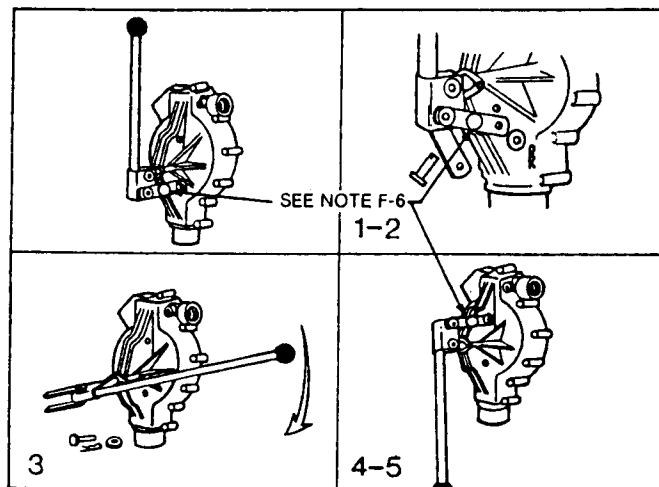

Figure 3-2. Two-Position Pump Handle
- F. The handle position can be changed with the following steps. Refer to Figure 3-2.
5. Install hairpin clip through the hole in the clevis pin. Ensure the flat washer (4) is installed between the hairpin clip and the link.